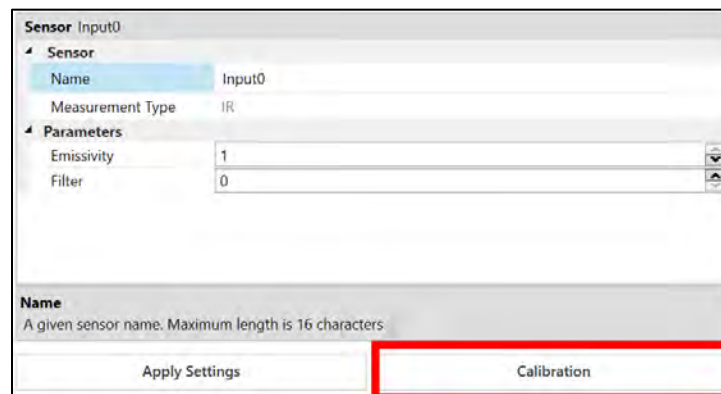

Figure 12
Step 1: Click **Calibration**. See **Figure 12**.